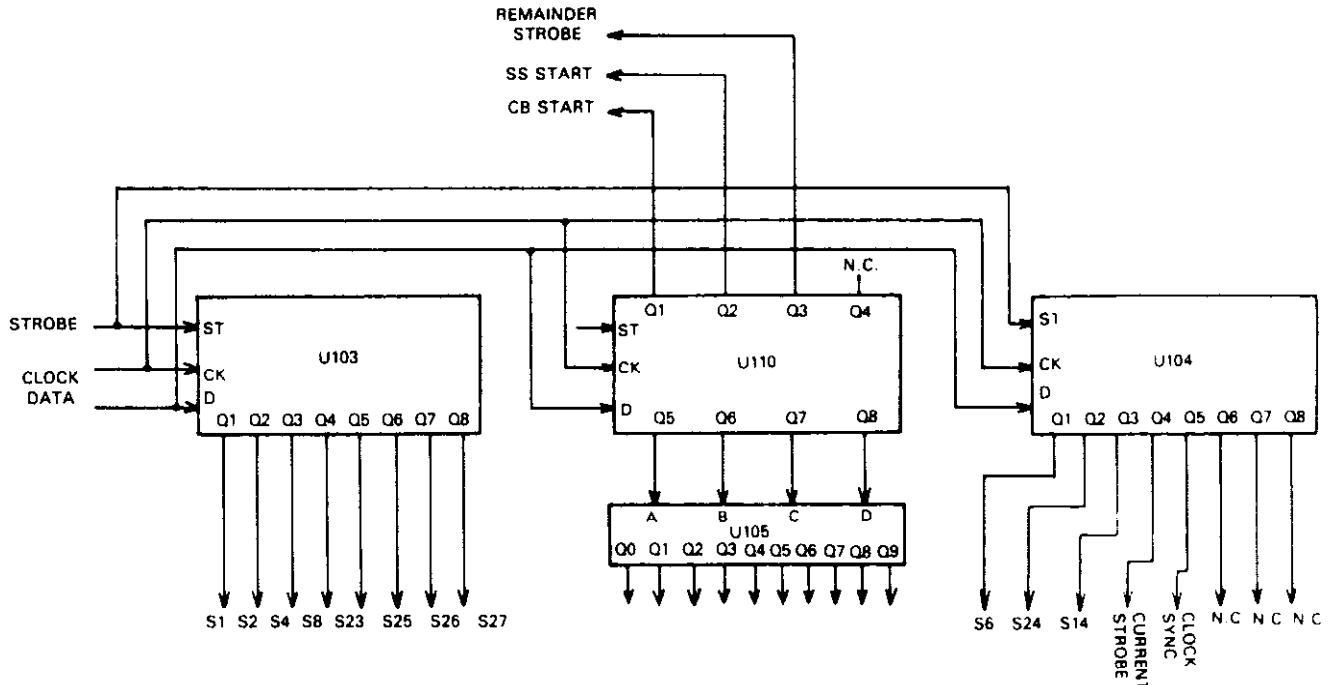

Figure 7-18. Simplified Schematic of Latch (Refer to Figure 7-1, Block E)
One of the many functions of the VIA is to transfer data from the digital side to the analog side of the optical isolators. With the strobe line (PB7) HI, a data transfer starts. One byte of data is stored in the serial register (SR) of the VIA and is automatically clocked through the optical isolators using the clock (CB1) and data (CB2) lines of the serial port. Another 8 bits are clocked out of the VIA. The strobe line (PB7) is brought LO then HI again to shift the 24 bits of data which are shifted into the latches (U103, U110, U104). Four of the bits are used to address the binary to decimal decoder (U105). Refer to Figure 7-18.